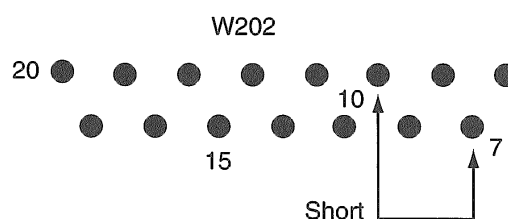

Fig. 2
1. Short the section between 7 pin and 10 pin of the connector W202 in Fig. 2.